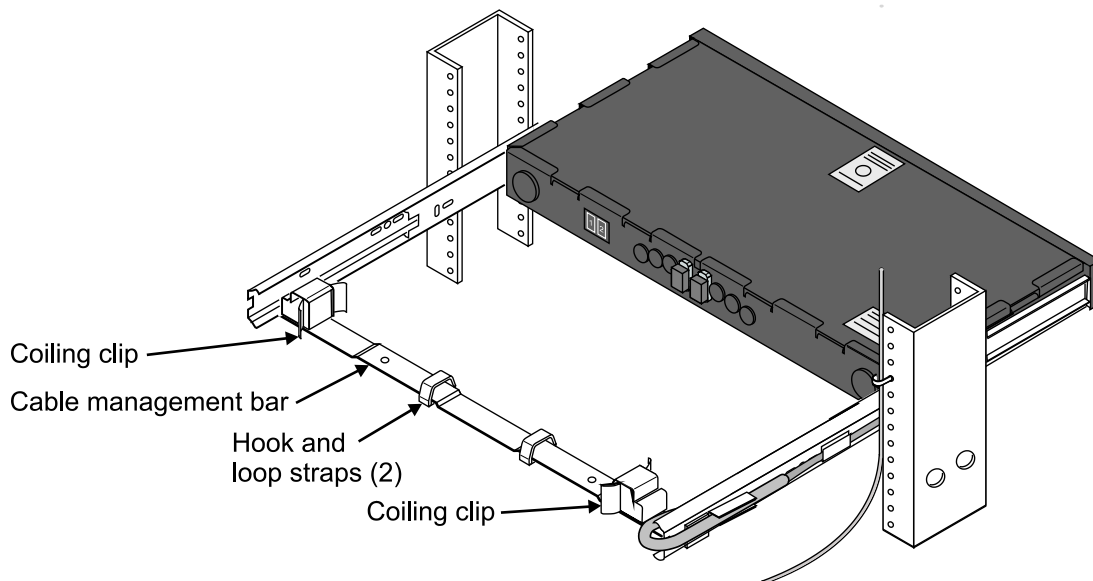

Figure 5. Install Cable Clips (optional) and Hook-and-Loop Straps
2. Use a clean wipe and isopropyl alcohol to clean the area of the cable management bar where the clips are to be installed. Refer to Figure 5.
3. Install an adhesive-backed coiling clip on each end of the trough as shown in Figure 5. Position the clips to leave approximately 1/4 inch (6mm) between the outer edge of the clip and the sliding shelf rail. Refer to Figure 5.